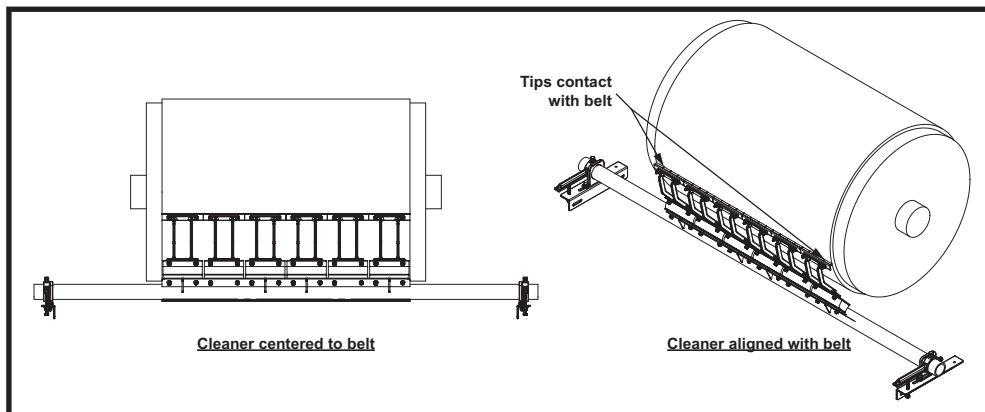

Figure 8. Martin® H1 Primary Belt Cleaner HD Tip Contact
- Rotate mainframe upward until tips make contact with the belt. Center tips across belt and tighten adjuster arms to retain mainframe in center position. Ensure adjuster arms are resting on adjusting bolt. (Refer to Figure 8.)